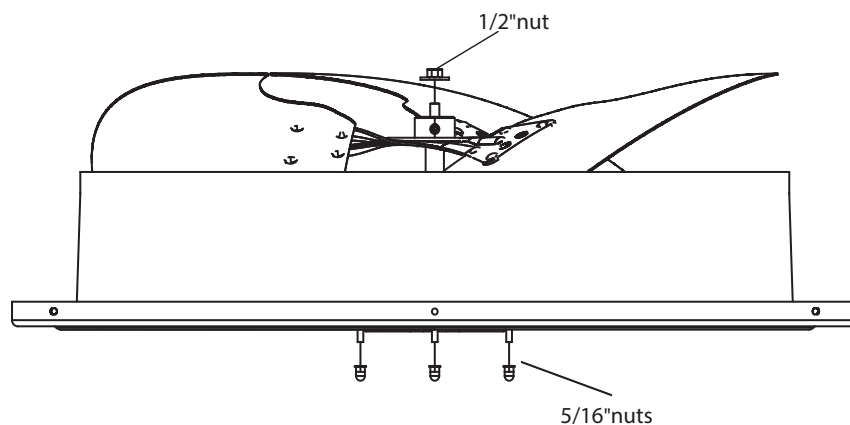

Figure 17-1
STEP 3 - Be sure to place fan cover unit on the ground (Fig. 17-1).